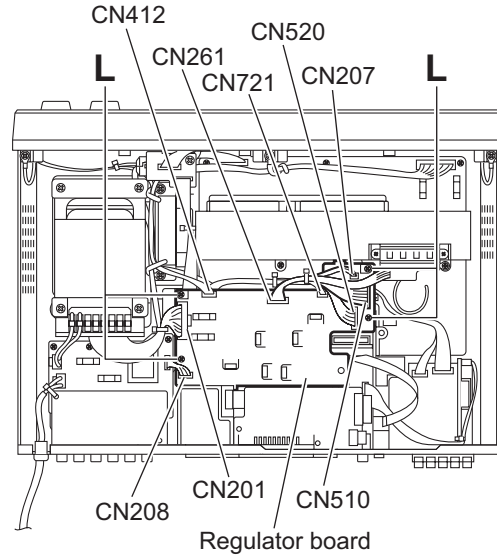

Fig.11
- (1) From the top side of the main body, disconnect the connector CN571 on the connection 1 board from the input M board.
- (2) Take out the connection 1 board.
3.1.11 Removing the regulator board (See Fig. 11)